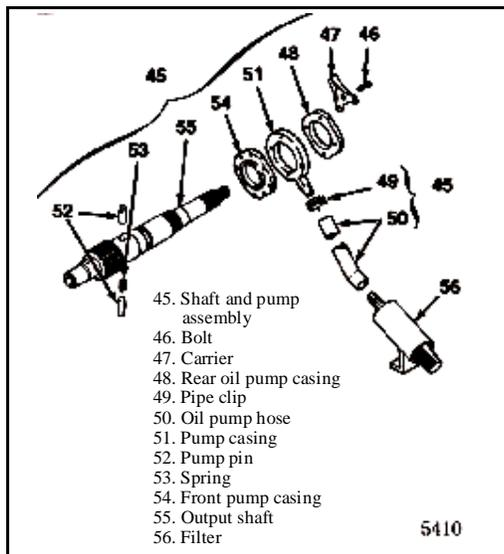

Fig. 3-7
From the remaining transfer box casing assembly (Parts 45 to 111), remove shaft and pump assembly (45) (see Fig. 3-7).
1. Remove 4 bolts (46) and retainer (47). Remove rear oil pump casing (48) from rear output shaft (55).
2. Loosen clamp (49), remove oil pump hose (50) from pump casing (51), and take off the oil pump casing from output shaft (55).
3. Remove clamp (49), oil pipe (50) and filter (56)
4. Remove 2 pump pins (52) and spring (53) from rear output shaft (55).
5. Slide front oil pump carrier off rear output shaft (55) and remove rear output shaft (55).